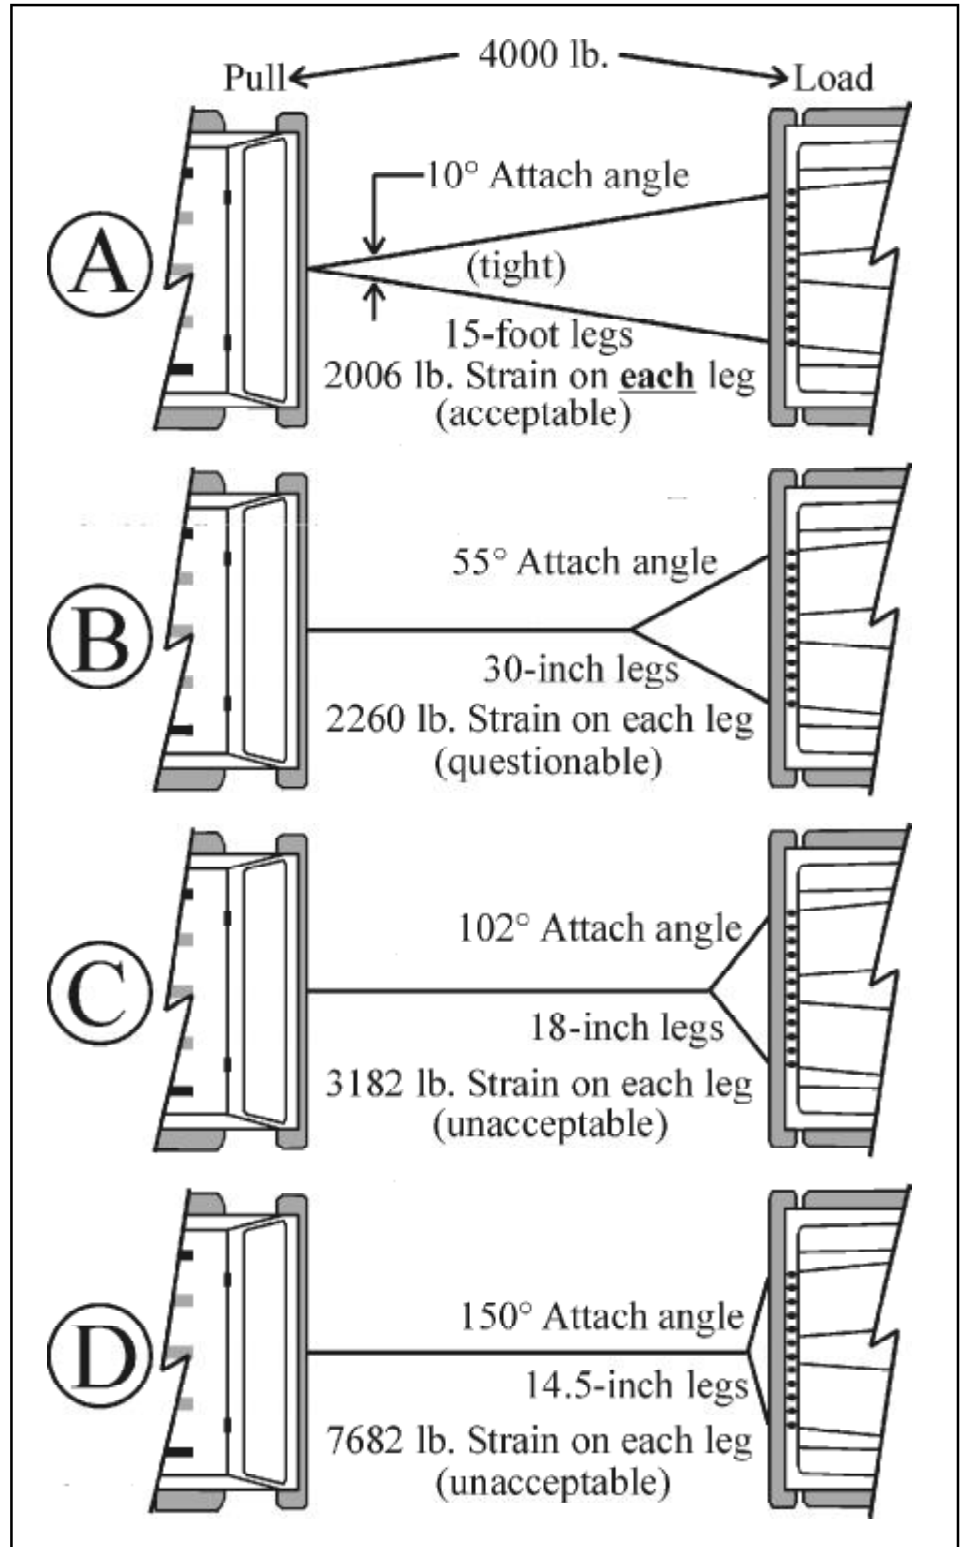

Figure 6 The yoke monster becomes inconceivably large as the attach legs get short and the angle becomes broad!
Figure 6 shows four typical yoke arrangements and the associated forces. I chose things you're likely to use for yokes like a yanker (A), tree saver (B) or Coyote chain (C). I assumed you have one hook at each end of the front frame rails. That measures 28 inches apart on my Explorer. I further assumed the vehicle to be a 4,000-pound load, as would easily be the case with bad mud. As the attach-point angle gets greater and greater, or the legs get shorter and shorter, note what happens to the strain on each leg. I particularly call your attention to the strain on the Chainman's setup (D). Understand the force monster can sneak up on you, so in industrial applications, OSHA and other safety agencies require slings be significantly derated. Further, for ease of presentation, the drawings are not exactly to scale.
Keep the legs long and the attach angle tight. Assuming you have an undamaged standard 30-foot yanker, and the attach points are at about frame width, you're OK. As you widen the attach points or shorten the legs, the forces increase as you can see in Figure 6.